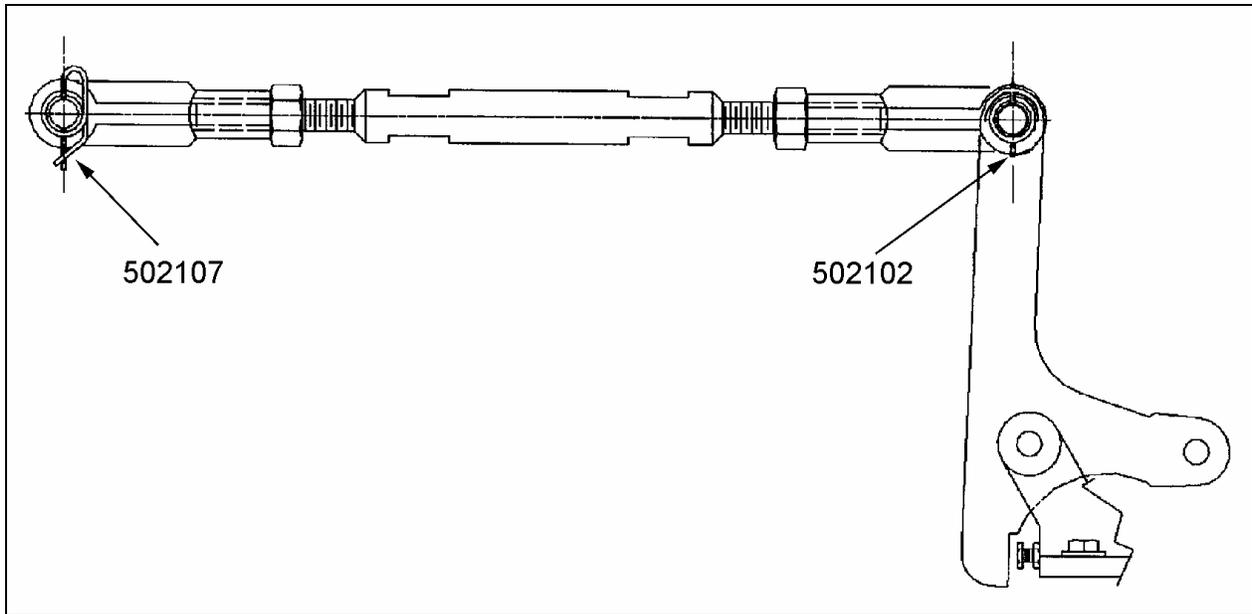

FIGURE 1: BRAKE PEDAL ROD LINKAGE
2. Remove the hitch pins as illustrated in figure 1 and replace with a cotter pin (#502102) on the end closest to the brake valve and a locking pin (#502107) on the other end of the rod (Refer to figure 1).